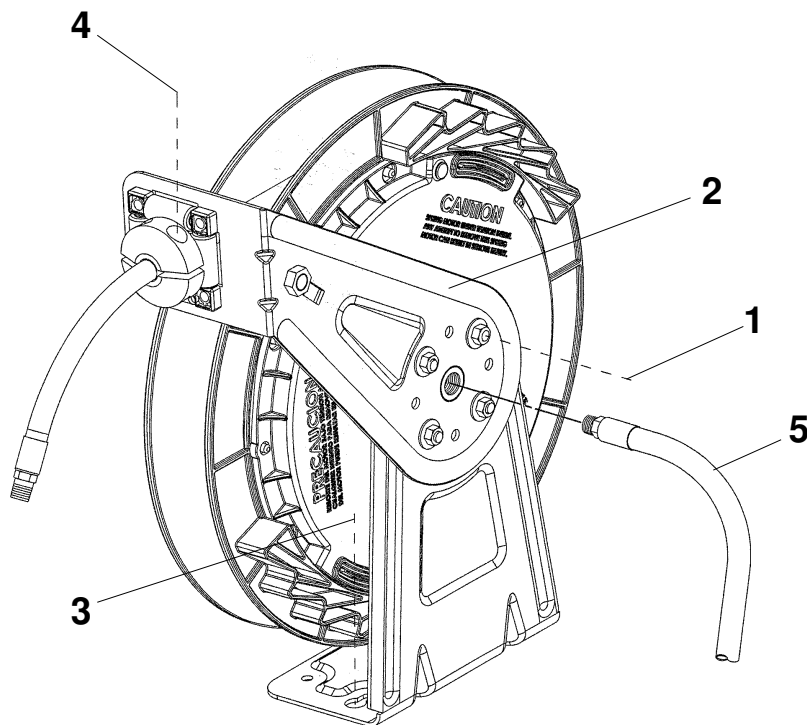

FIG. 2
CAUTION: RISK OF INJURY. Spring winding mechanism is under tension. REMOVE tension as follows. Pull out hose until latch pawl is engaged. Remove bumper by removing slotted screws (item 4, Fig. 2). Carefully disengage latch pawl while maintaining a firm hold on the spool. Turn spool by hand approximately two or three revolutions in the direction of the drive spring until all tension is removed. Remove guide arm (item 2 , Fig. 2) and spool by removing the 4 nuts (Item 1, Fig. 2).
3. Position the base to floor, wall or ceiling. Secure into place using four (customer supplied) fasteners (item 3, Fig. 2).
5. Connect a (customer supplied) flexible hose supply line (item 5, Fig 2) to inlet. Do not use rigid plumbing. Apply pipe thread sealant to threads and do not overtighten the connection. Torque should not exceed 70 ft-lbs.